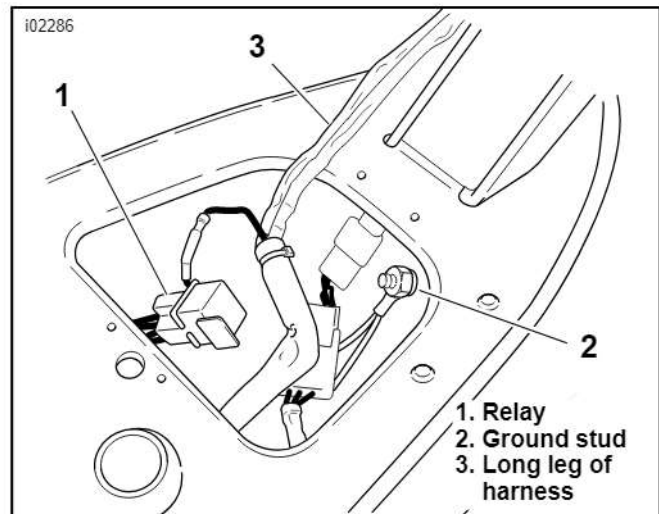

Figure 4. Install the Wiring Harness (Dyna Model Shown)
8. See Figure 4. Install the wiring harness. Place the relay (1) in the opening in the seat pan, and route the long leg of the harness (3) along the frame backbone.